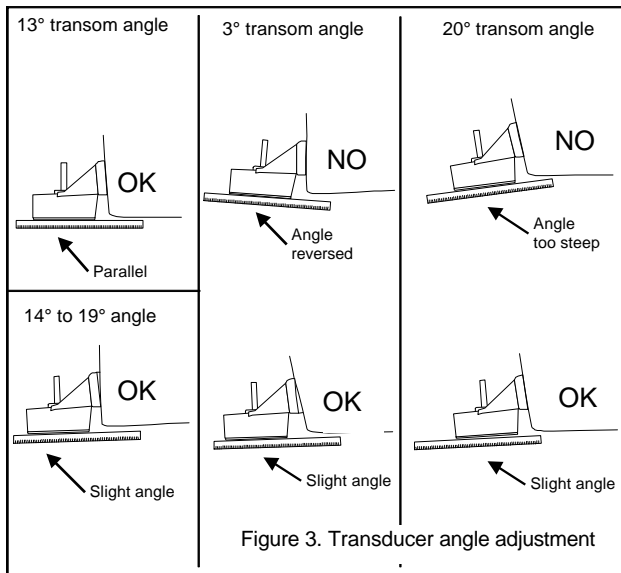

Figure 3. Transducer angle adjustment
2. Position the transducer at the selected location. Using a straight edge, sight the underside of the transducer relative to the underside of the hull. The stern of the transducer should be 1-3 mm (1/16-1/8") below the bow of the transducer or parallel to the bottom of the hull. To be sure your transducer is angled correctly, compare it to Figure 3.